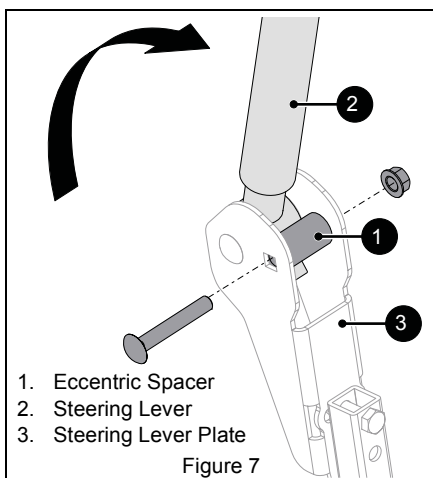

Figure 7
11. Rotate steering levers to operating position and install eccentric spacer between steering lever plates. Secure with hardware. See Figure 7.